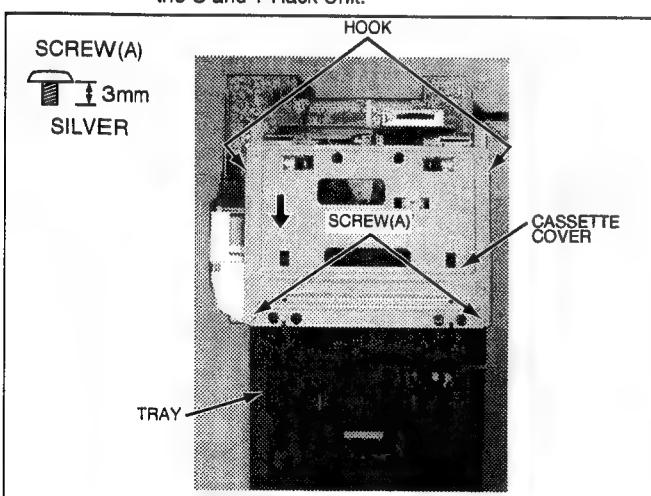

Fig. T-1
- Fig. T-1 Set the Mechanism to Tray open position.